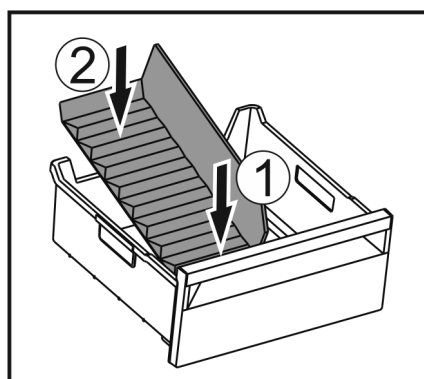

Fig. 250
- Insert the front part of the ice compartment divider. Fig. 250 (1)
- Lower the rear part of the ice compartment divider to the drawer bottom. Fig. 250 (2)